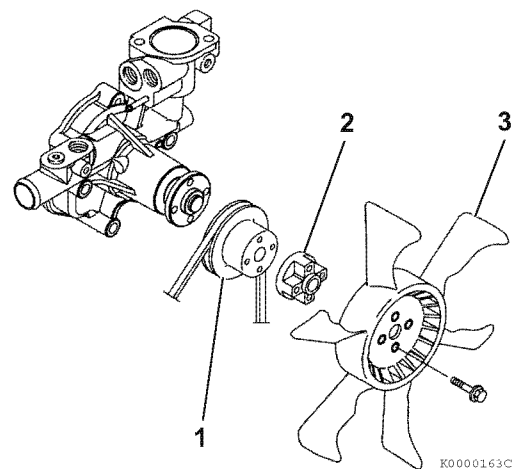

Figure 9-20
5. Reinstall the engine coolant pump V-pulley (Figure 9-20, (1)), spacer (Figure 9-20, (2)), engine cooling fan (Figure 9-20, (3)) and engine cooling fan guard (if equipped).